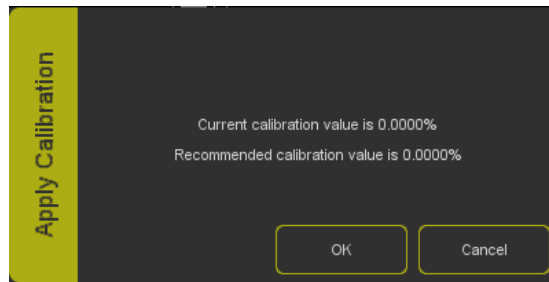

Figure 15.4: Apply calibration value
5. Apply the recommended calibration value in the dialog (figure 15.4)